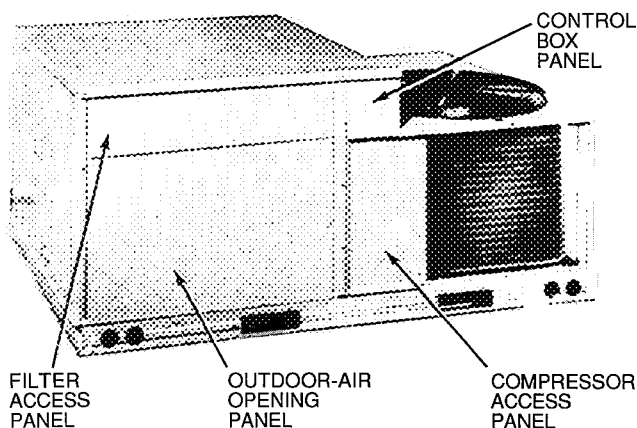

Fig. 15 — Typical Access Panel Locations
2. Remove filter access panel by raising panel and swinging panel outward. Panel is now disengaged from track and can be removed. No tools are required to remove filter access panel. Remove outdoor-air opening panel. Save panels and screws. See Fig. 15. Remove optional outdoor-air damper hood package from filter section.
2. Remove filter access panel by raising panel and swinging panel outward. Panel is now disengaged from track and can be removed. No tools are required to remove filter access panel. Remove outdoor-air opening panel. Save panels and screws. See Fig. 15.